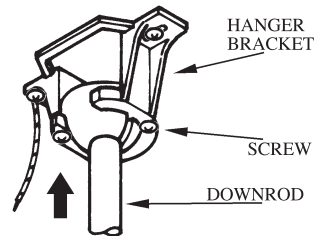

FIG.3
2. Carefully lift the fan and seat the downrod and ball assembly on the hanger bracket. Be sure the groove in the ball is lined up with tab on the hanger bracket. (see Fig. 3)